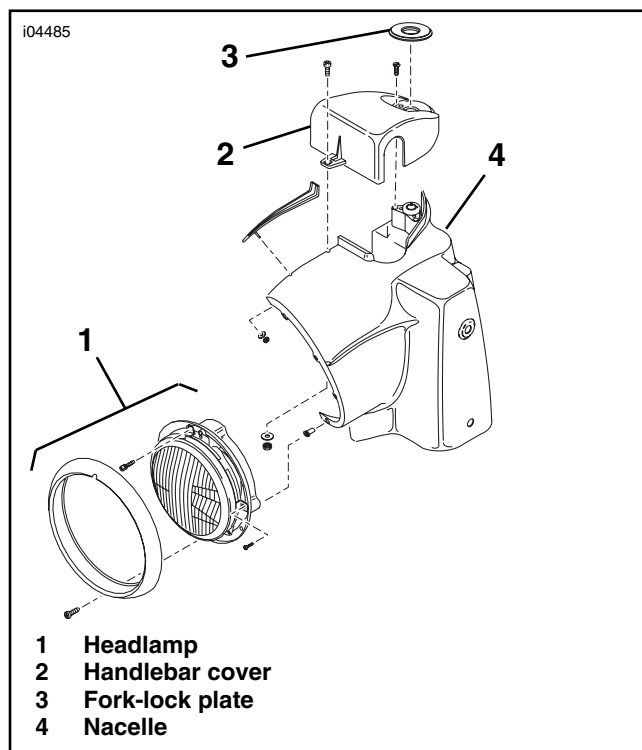

Figure 9. Nacelle, Headlamp, and Handlebar Cover (FLHR/ FLHRC Models)
- See Figure 9. Carefully pry off the fork-lock label plate (3) from the handlebar cover (2). Remove the entire plastic plate; do not remove the adhesive label from the plate.